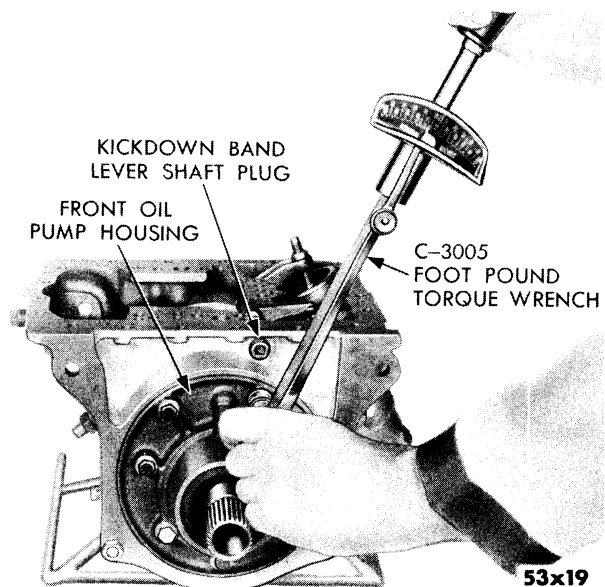

Fig. 107—Tightening Front Oil Pump Housing Bolts
- (5) Place front oil pump housing assembly over torque converter reaction shaft and slide into position over guide studs until oil pump housing seal is flush with transmission case.
- (6) Using new aluminum or copper washers on bolts, start five of the bolts and draw housing down evenly until it is seated in transmission case.
- (7) Remove guide studs and install the two remaining bolts and washers. Tighten to 17 foot-pounds torque. (Fig. 107.)